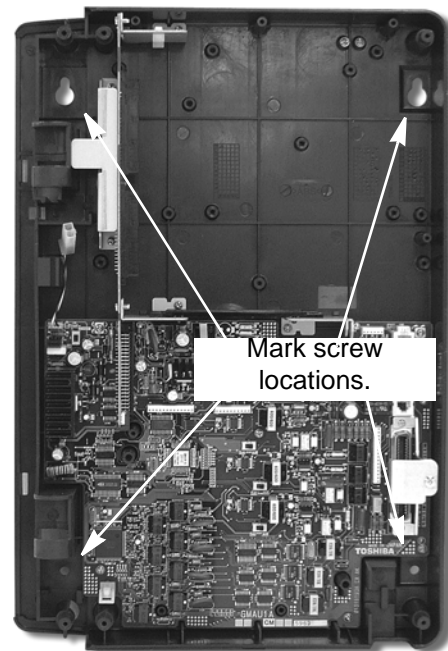

Figure 1-7 CIX40 Interior
The minimum clearance requirements for the Strata CIX40 Base cabinet is shown in Figure 1-3. Refer to Figure 1-7 on page 1-13 for CIX40 cabinet mounting instructions.
3. Place the cabinet base on the desired location on the mounting surface and mark the location of the four screw holes. See Figures 1-7 and 1-8.